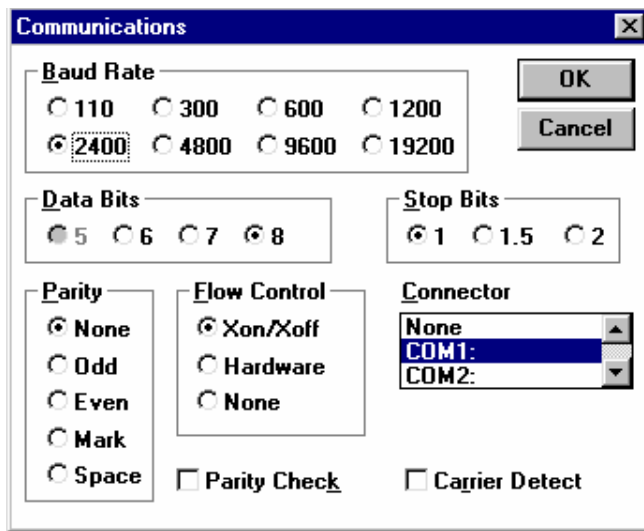

Fig 3 Communications Dialog Box
- Before downloading the data in Terminal, communication must be set up. For that select **Communications** menu from **Settings** menu. The **Communications** dialog box is displayed as shown in Fig 3.